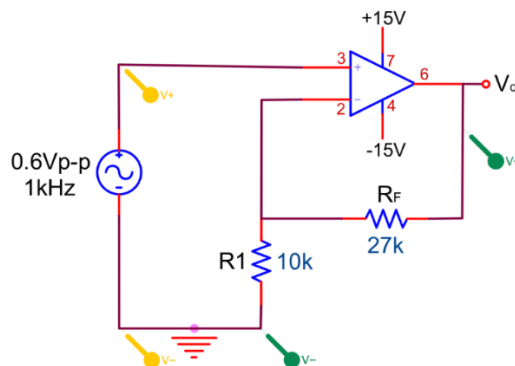

Figure 9.9
5. Construct the circuit in Figure 9.9. Record v_i and v_o ; compare it to the value calculated in the pre-lab. What is the phase difference between v_i and v_o ?